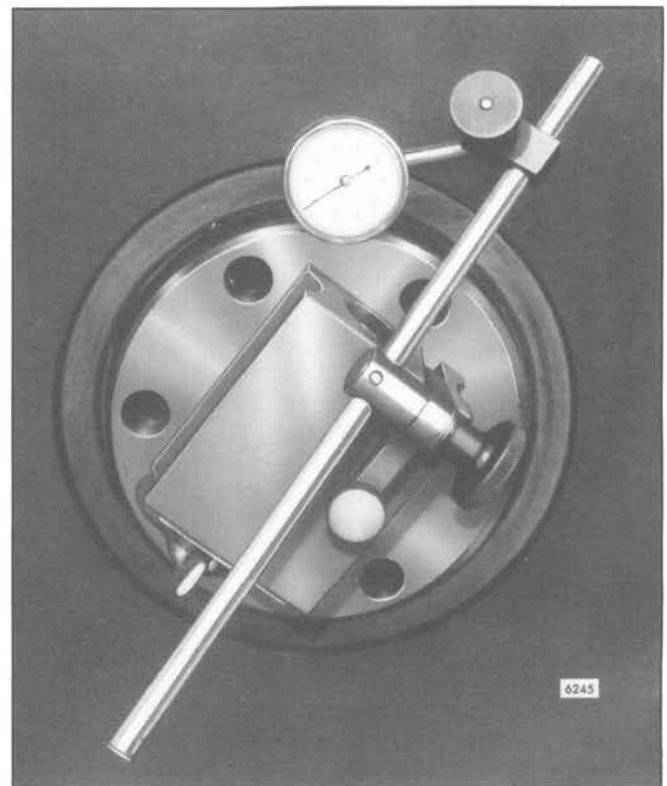

Fig. 4 - Checking Crankshaft Rear Seal Squareness
- a. Attach magnetic base dial indicator J 7872 to the rear butt of the crankshaft (Fig. 4). Position the point of the dial indicator on the seal face. Rotate the crankshaft and note the seal face readings at the 12, 9, 6 and 3 o'clock positions. The total runout at each position should not exceed 0.015". *However, before doing this, pry the crankshaft toward one end of the block to ensure that end play is in one direction only.*
1. Attach magnetic base dial indicator J 7872 to the rear butt of the crankshaft (see Fig. 4). Position the point of the dial indicator at the outer perimeter of the seal face. Rotate the crankshaft and note the seal face readings at the 12, 9, 6 and 3 o'clock positions. The total runout across the entire seal should not exceed 0.015".